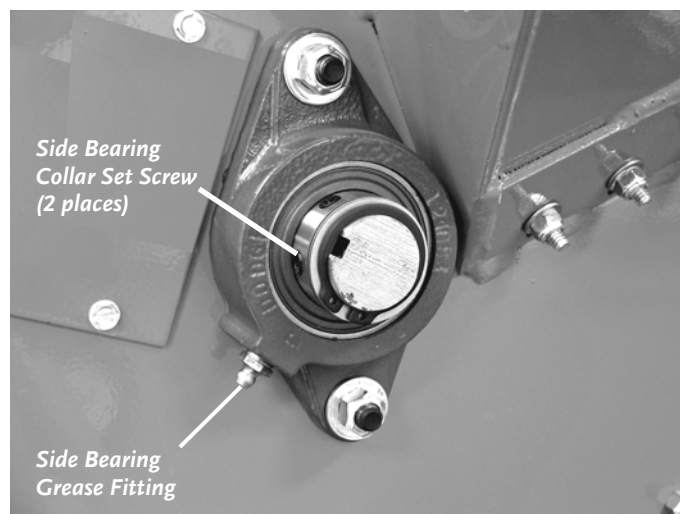

Figure 11
1. Wipe all dirt, etc., from the grease fittings with a clean cloth (**Figure 11**).
2. Apply no more than three (3) pumps of quality general-purpose lithium grease with a hand-pumped grease gun to each grease fitting, one (1) on the Chipper Side Bearing and one (1) on the Drive Side Bearing.